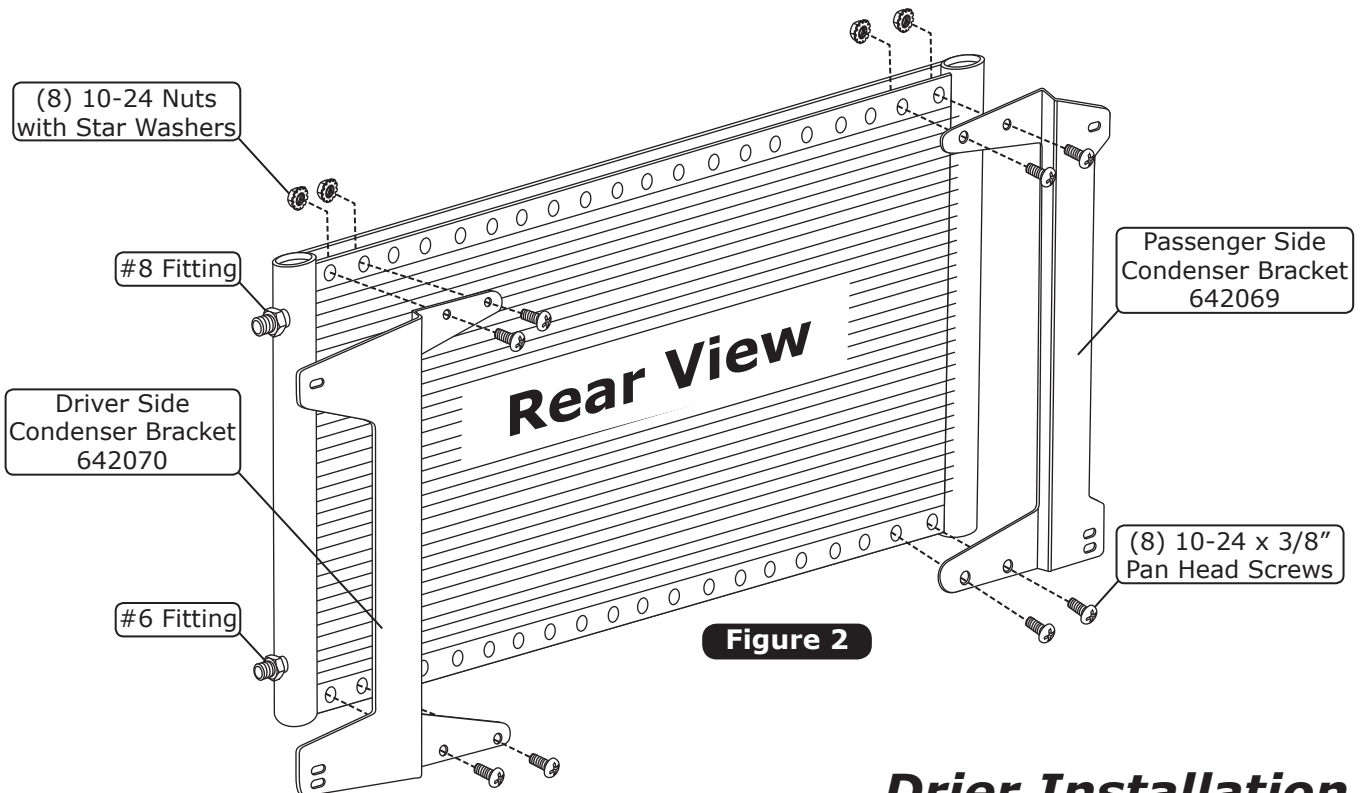

Figure 2
1. Install the condenser mounting brackets onto the condenser using (8) 10-24 x 3/8" pan head screws and (8) 10-24 nuts with star washers (See Figure 2, below). **NOTE: Brackets mount through the 1st and 2nd holes on the condenser.**